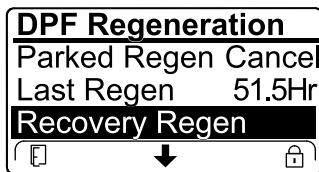

Figure 59
- If the engine computer has not requested a recovery regeneration and you scroll down to the RECOVERY REGEN option, the recovery regeneration locks and the lock icon (Figure 59) appears in the lower right corner of the InfoCenter.